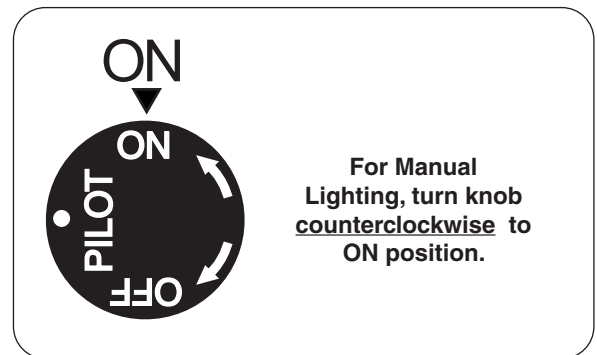

Fig. 27-1 Control knob detail (ON)
1. Ensure the pilot is burning. Turn the gas control knob counterclockwise to **ON** (Fig. 27-1) to ignite the burner. The valve will open and the burner will light.